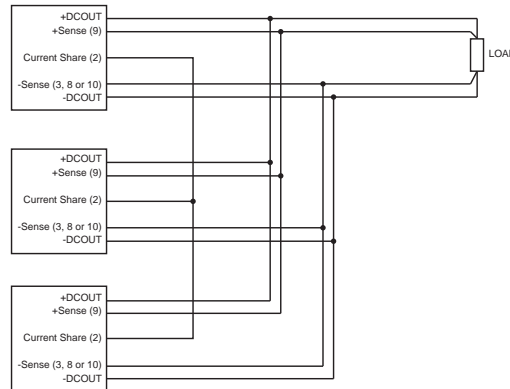

Figure 5 – Connection Diagram for Parallel Operation (3 modules)
- 16.8** **Testing the Modules in Parallel** - With the input power source off or disconnected, connect two modules in parallel as shown in Figure 5 on page 14. Connect a resistive power load of approximately 80% of full load value for a single GR across the output. Connect a color-coded, twisted pair of remote sense leads to the load, being careful to connect the correct polarity.